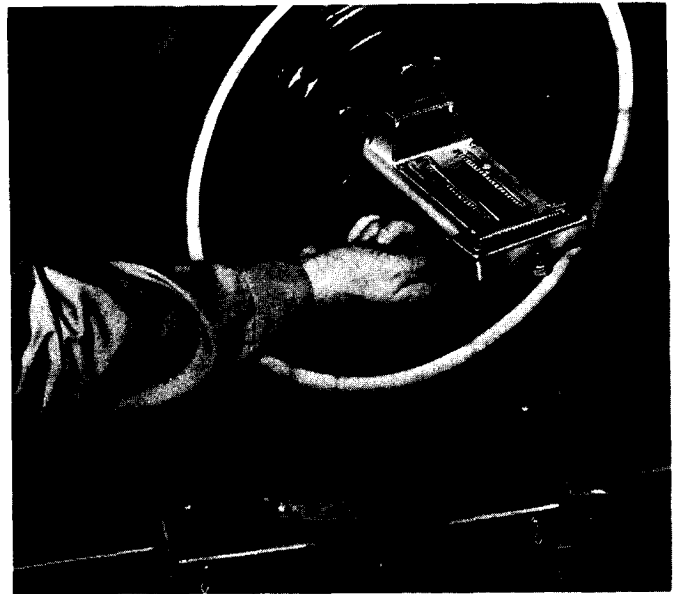

Figure 13 — Checking Caster, 20° Out
1. Be sure the pointers on both turntables are on 0°. Turn the front of the wheel being checked out to 20° on the turntable dial (Figure 13).